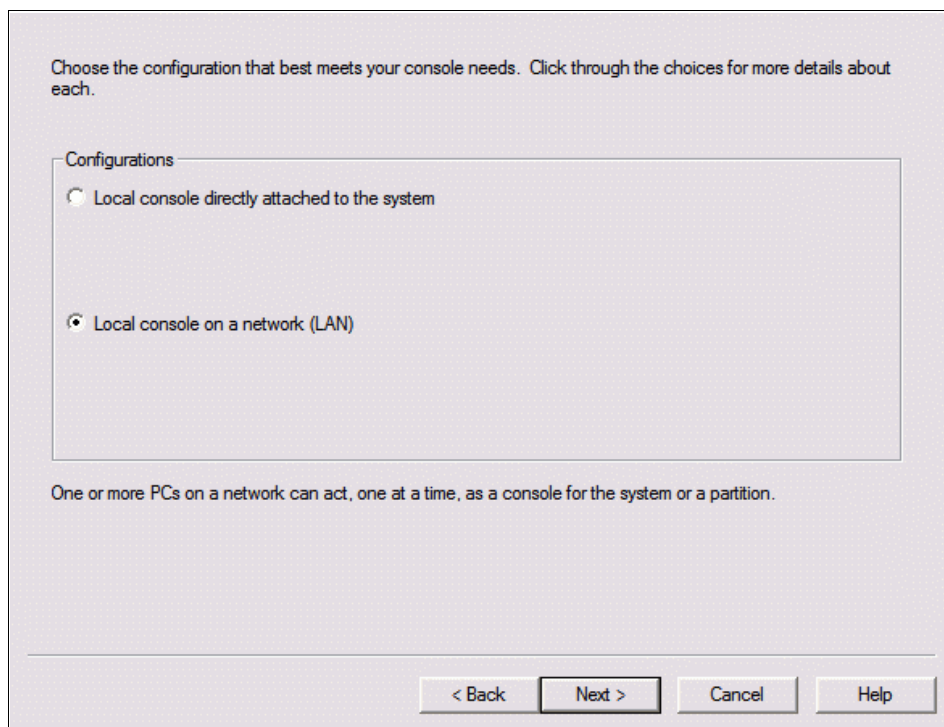

Figure 7-36 IBM System i Operations Console - choose a configuration
3. Depending on the actual infrastructure or existing systems, a connection can be made by using a direct connection or a LAN connection, as shown in Figure 7-36 on page 283.